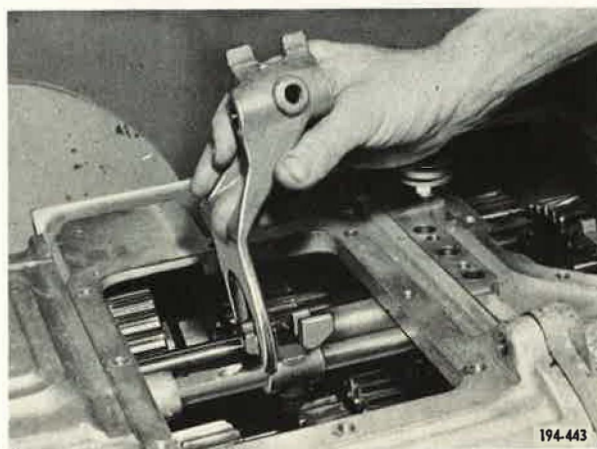

Figure 71. Installing Fourth and Fifth Speed Shifter Fork
8. Start fourth and fifth speed shifter rail through hole provided in front of case. Engage fourth and fifth speed shifter fork with fourth and fifth speed sliding clutch. See Figure 71. Advance rail through hub of fork and intermediate bore of case until rail reaches neutral position. Install fork setscrew and tighten to recommended torque.